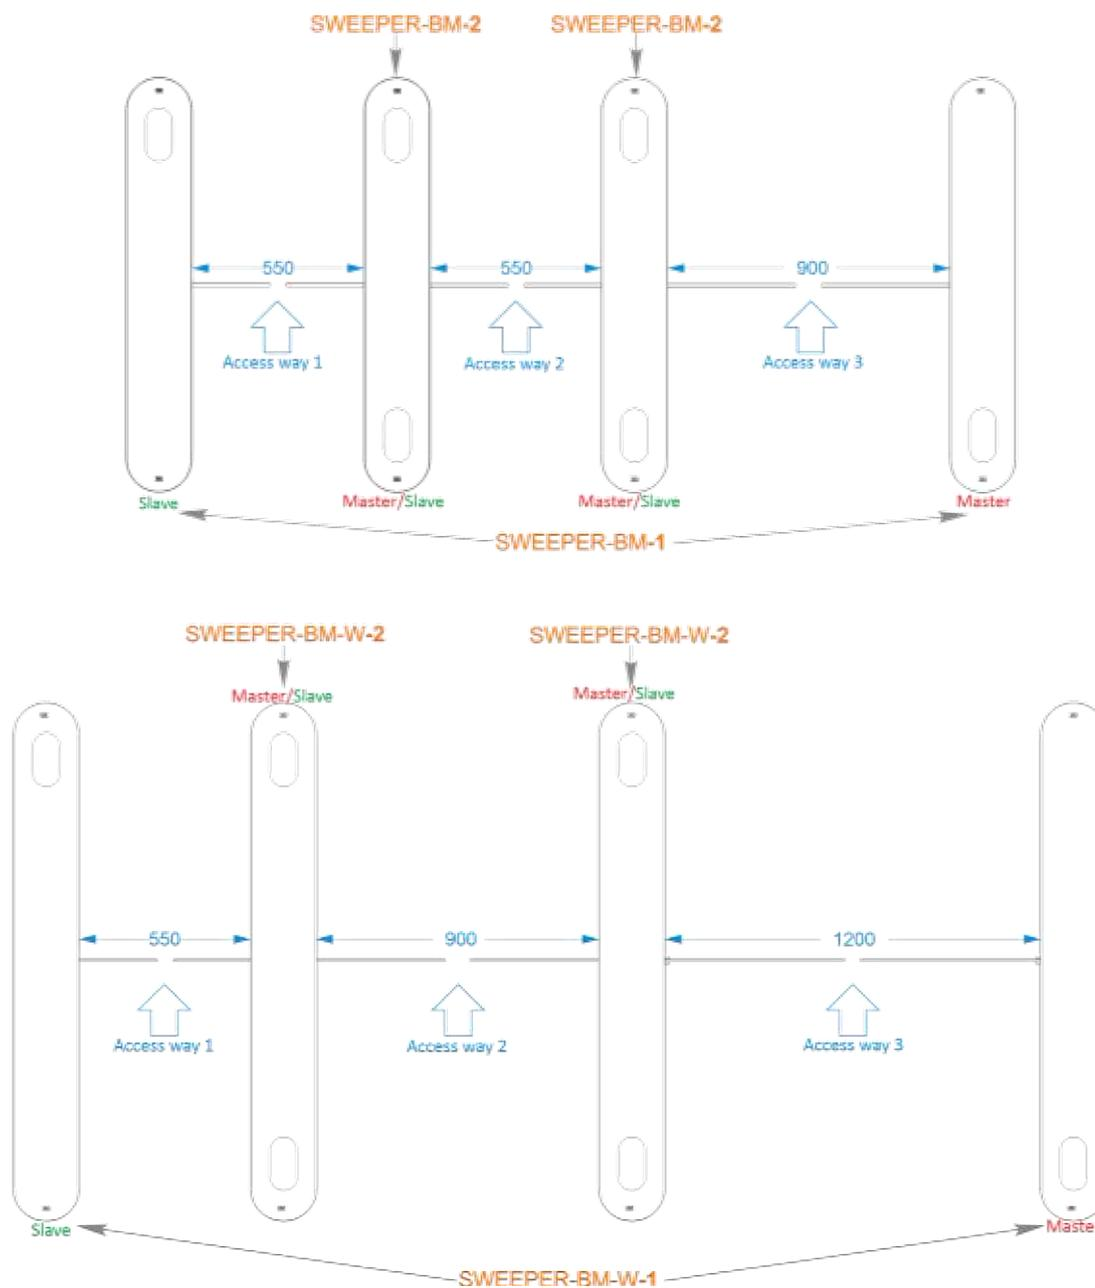

Fig.17 – The "Sweeper-BM" and "Sweeper-BM" turnstile lanes arrangement options
5) The turnstile fixation holes to be marked on the area surface according to Figure 17 (for turnstiles with 550 mm and 900 mm lanes). The turnstile itself can be used as a template.